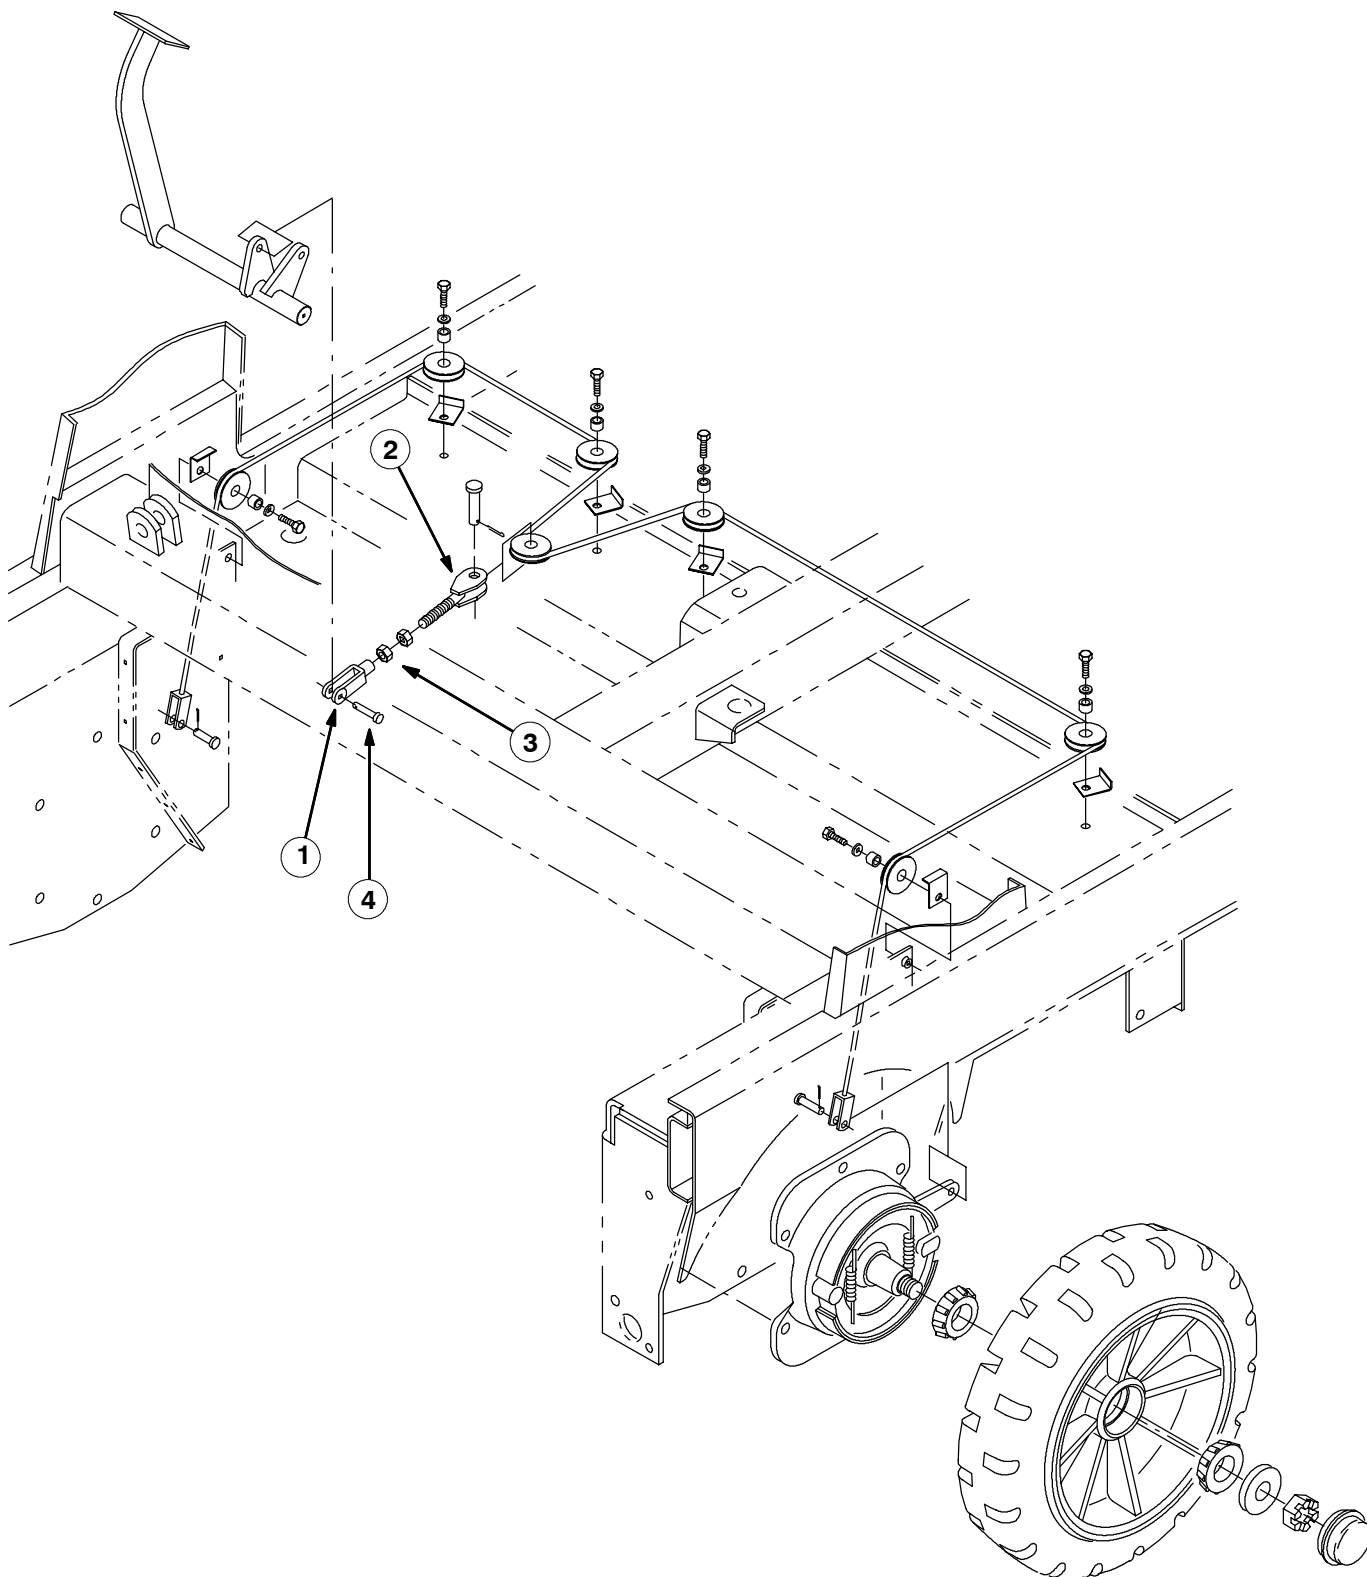

FIG. 3 - BRAKE CABLE CONNECTOR INSTALLATION
4. Install the new cable clevis (1), yoke (2) and clevis pin (4) with the hex nut (3) and set aside cotter pin 08182, in place of the old brake cable parts. (Refer to FIG. 3)